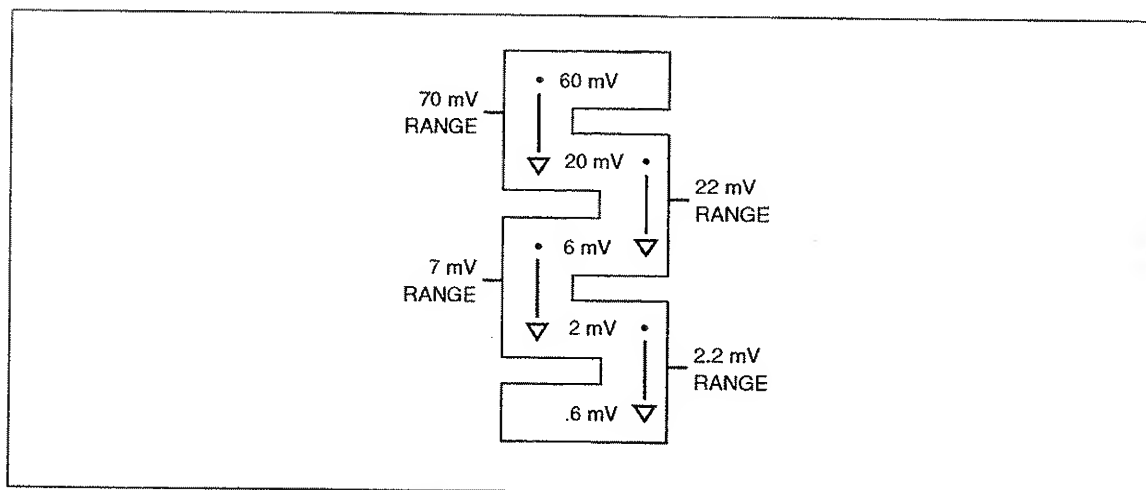

Figure 3-9. Millivolt Range Bootstrapping Technique
8. For an ac calibration point in the 2 mV through 20 mV group, you use a bootstrapping technique. This procedure assumes the you have calibrated the 60 mV points. Each range is bootstrapped from the next higher range as shown in Figure 3-9.